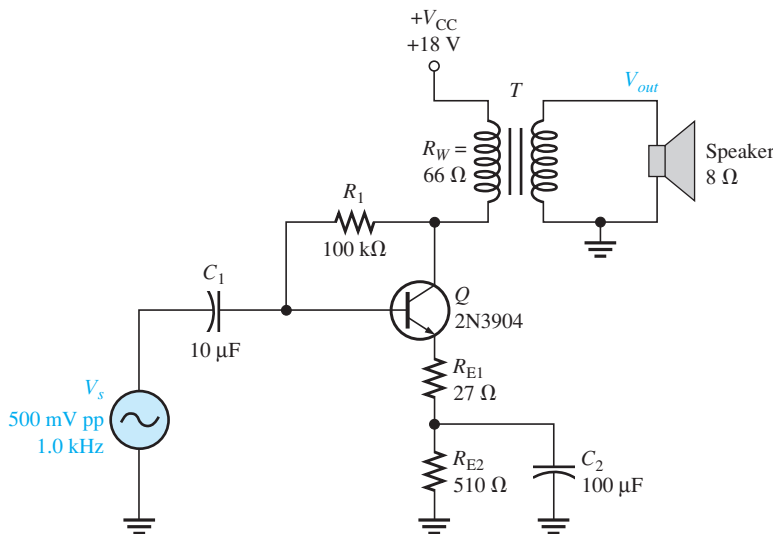

FIGURE 5-63
16. The amplifier in Figure 5-63 is a low-power audio amplifier with collector-feedback bias. The transformer is a step-down impedance-matching transformer designed to give a reflected resistance in the primary of 1000 Ω when the load is 8 Ω (such as the speaker). The dc resistance of the primary winding is 66 Ω.